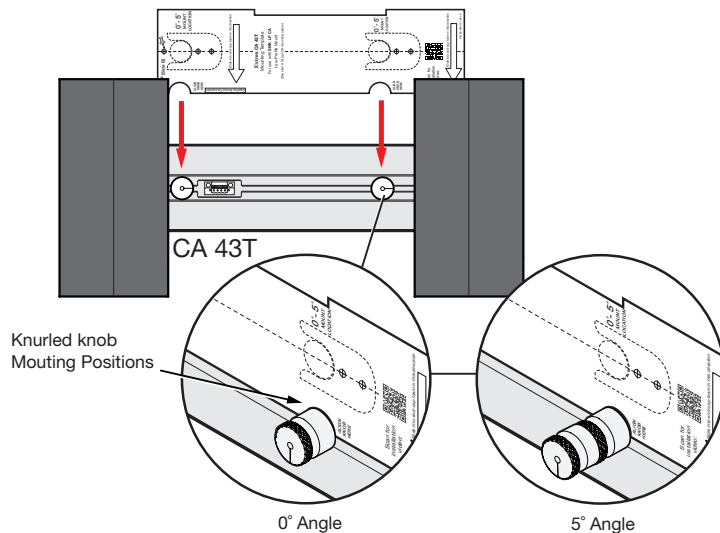

Figure 7. Align and Secure Speaker Bracket Assembly
6. To add 5° of tilt, screw a single Extension Knob onto the desired Primary Knob (see figure 7). The second Extension Knob is not applicable to the CA 43T.)